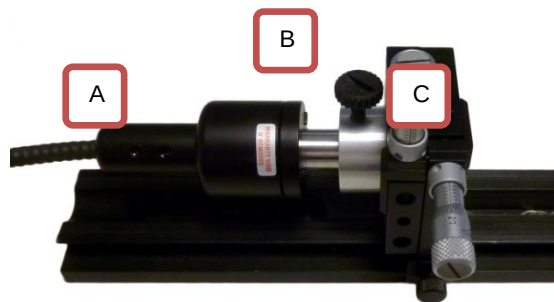

Figure 5-12: Example of mounting of the collimator unit
Figure 5-12 shows an example of mounting the collimator unit. The collimator (A) is fixed inside a cylindrical sleeve (B) having an outer dimension of 24.9 mm so it fits with both 25.0 and 1-inch holders. The cylindrical sleeve is mounted in a XY-stage (C). In this example the rail is from OWIS, however, similar equipment from other suppliers such as Thorlabs or Newport may also be applied.